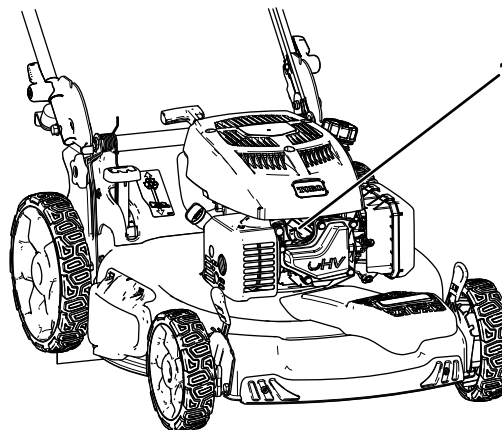

Figure 22
2. Disconnect the spark-plug wire from the spark plug (Figure 22).